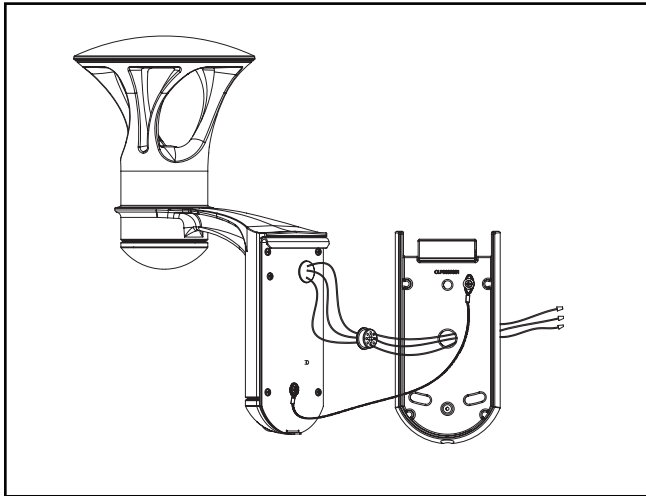

Figure 4.
5. Make wire connections, refer to wire diagram for power connections. Connect the supply wires to appropriate luminaire leads. (Figure 4.)